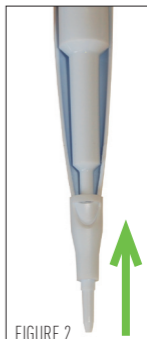

FIGURE 2
- 2 Push the extension firmly onto the end of the tip-ejector until it clicks into place (see figure 2)